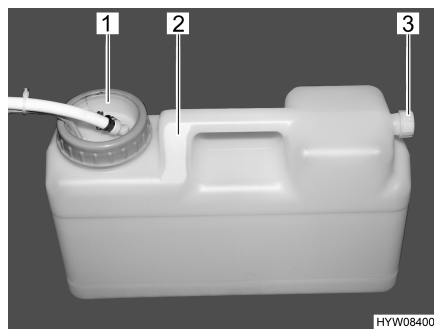

Fig. 67 Water canister for drinking water
- Unscrew the cap with the pump (Fig. 67,1). Screw the closed cap onto the canister.
- Release the fixing belts and take out the water canister (Fig. 67,2).
- Fill the canister with drinking water. The venting cap (Fig. 67,3) can be undone for venting.
- Remove the closed cap and screw the cap with the pump (Fig. 67,1) onto the canister in its place.